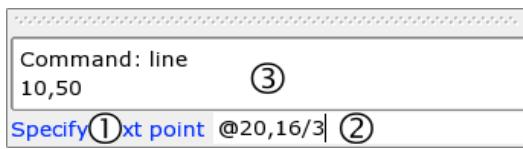

Figure 10: The Command Line of QCad.
Figure 10 shows the command line of QCad. It consists of the command line prompt (1), the command line input field (2) and the output area (3) that shows the command line history as well as potential errors, warnings, ...